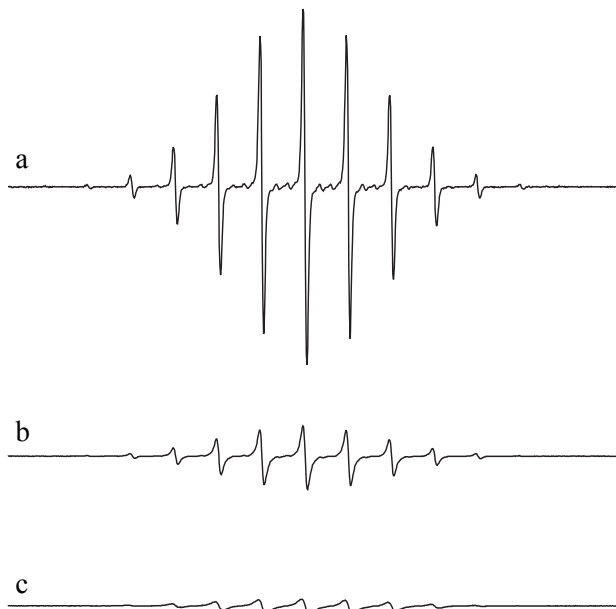

Figure 8-6 Effect of using progressively higher power (a-c) on an EPR spectrum.
- **Optimize the microwave power level.** The intensity of an EPR signal increases with the square root of the microwave power in the absence of saturation effects. When saturation sets in, the signals broaden and become weaker. EPR signals with very narrow lines are particularly susceptible to distortion by excessive power. Figure 8-6 shows the result of excessive microwave power. You should try several microwave power levels to find the optimal microwave power for your sample. A convenient way to find the optimum power is to use the 2D experiment routine described in Section 5.7.